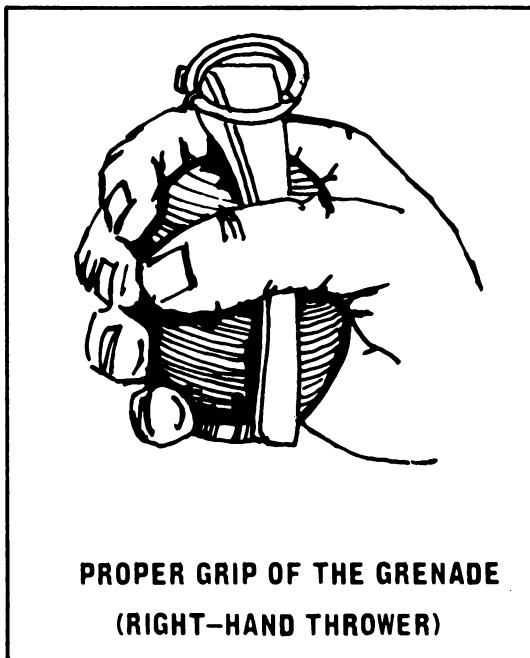

Figure 12
- a. The grip. The safest and easiest way to grip a hand grenade for throwing is to hold it so that the safety lever is held down by the thumb while keeping the pull ring (and safety clip if present) free and facing the nonthrowing hand (see fig. 12 and 13.)